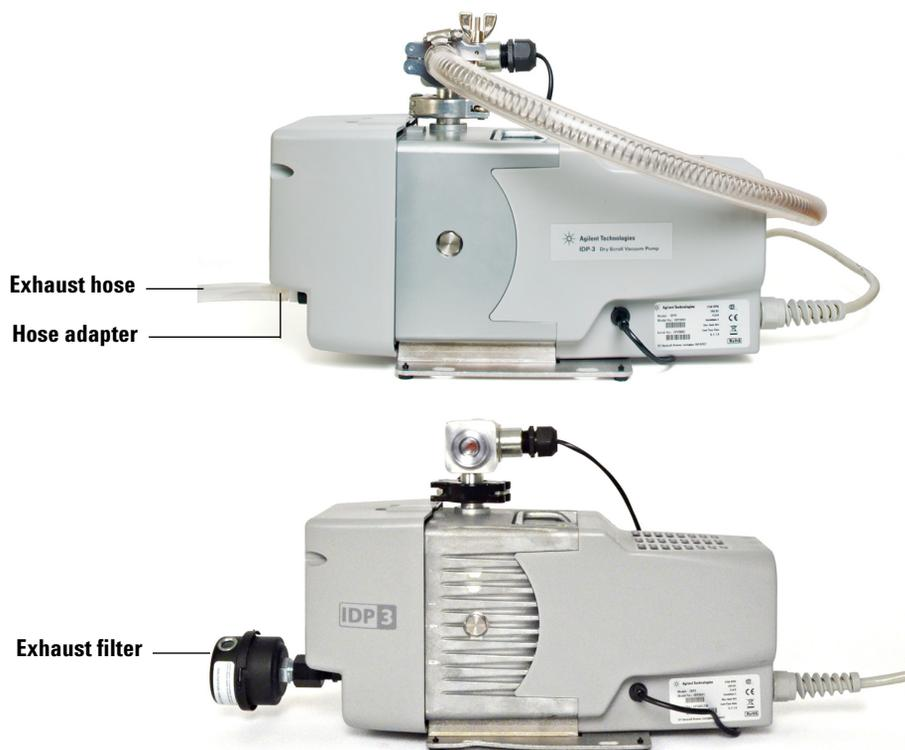

Figure 9 IDP3 pump with exhaust filter
- 1 Unscrew the cap from the exhaust filter. (See Figure 9 on page 104.)